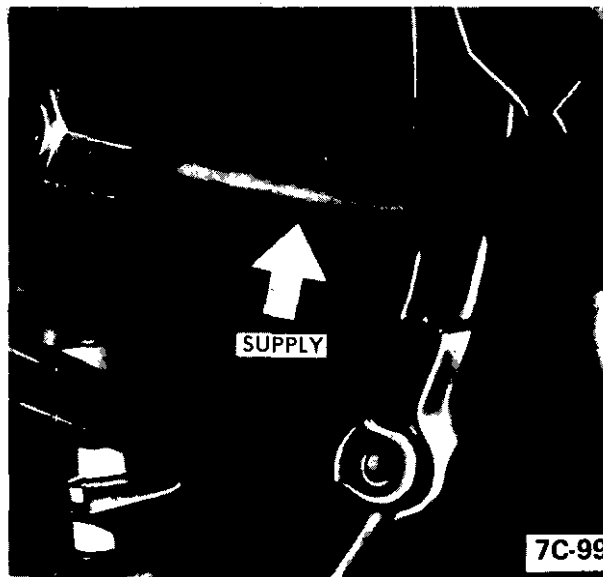

Figure 7C-99
16. Unscrew oil cooler pipes from transmission counter holding with a second wrench. Then plug oil cooler pipes. See Figures 7C-99 and 7C-101.